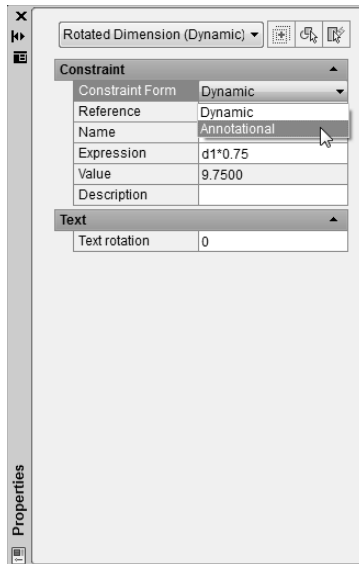

Figure 19-9:
- 3. Click in the Constraint Form field and in the drop-down list, change Dynamic to Annotational (see Figure 19-9).**